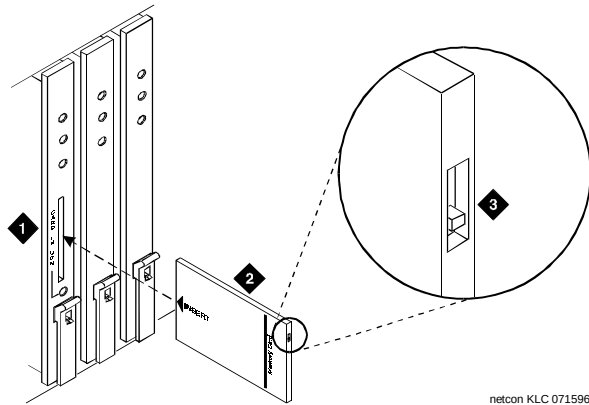

Figure 1-1. Record Switch on DEFINITY Memory Card
6. Verify the switch on the outside edge of the memory card is in the down position to record (see Figure 1-1).
7. Insert the original translation memory card into the slot on the TN777B faceplate. (See Figure 1-1.)